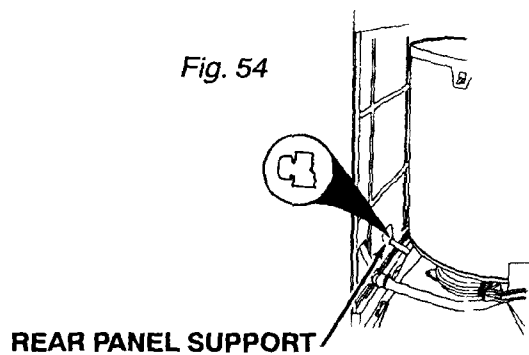

Fig. 54
- When reinstalling the rear panel support, press in on the rear panel and rotate the support to lock the panel in position. (Fig. 54)